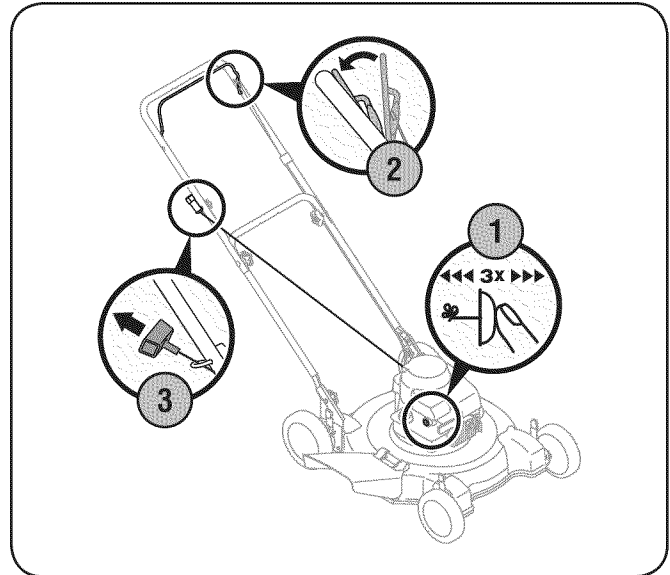

Figure 5-1
1. When starting the engine for the first time, push primer (if equipped) five times. For all future starts, push the primer three times. Wait about two seconds between each push. See Fig. 5-1. Do not prime to restart a warm.
3. Holding these two handles together firmly, grasp recoil starter handle and pull rope out with a rapid, continuous, full arm stroke. See Fig. 5-1. Keeping a firm grip on the starter handle, let the rope rewind slowly. Repeat until engine cranks. Let the rope rewind each time slowly.